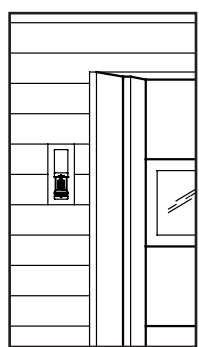

Fig. 1
- Mount Wireless Keypad on a flat vertical surface with enough room above to slide cover up. Pick location out of path of moving garage door and supporting hardware. **Fig. 1.**